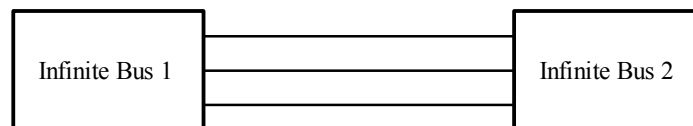

Figure P9-1 A three-phase transmission line connecting two infinite busses together.
- 9-15.** The transmission line of Problem 9-11 is connected between two infinite busses, as shown in Figure P9-1. Answer the following questions about this transmission line.